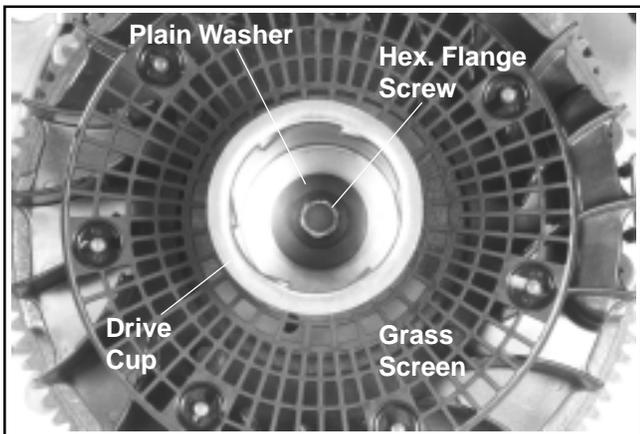

Figure 11-29. Installing Flywheel (Retractable Starter Models).
**Retractable Starter Models:** Install grass screen, drive cup, plain washer (flat side towards the drive cup), and the hex. flange screw. See Figure 11-29.